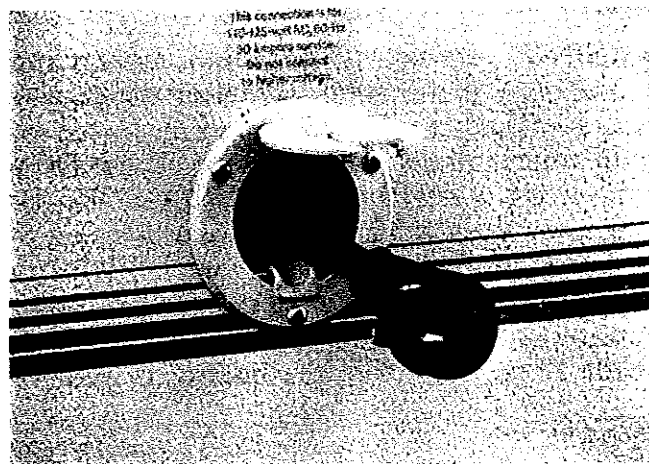

FIGURE 50
4. When the campsite provides an electrical system: Lift up the cable hatch cover, grasp the self-storing power cord plug, and pull it out. See Figure 50. Plug the power cord into the campsite-provided outlet. From inside the trailer at the power supply center, set the converter switch to the "CONVERT" position.